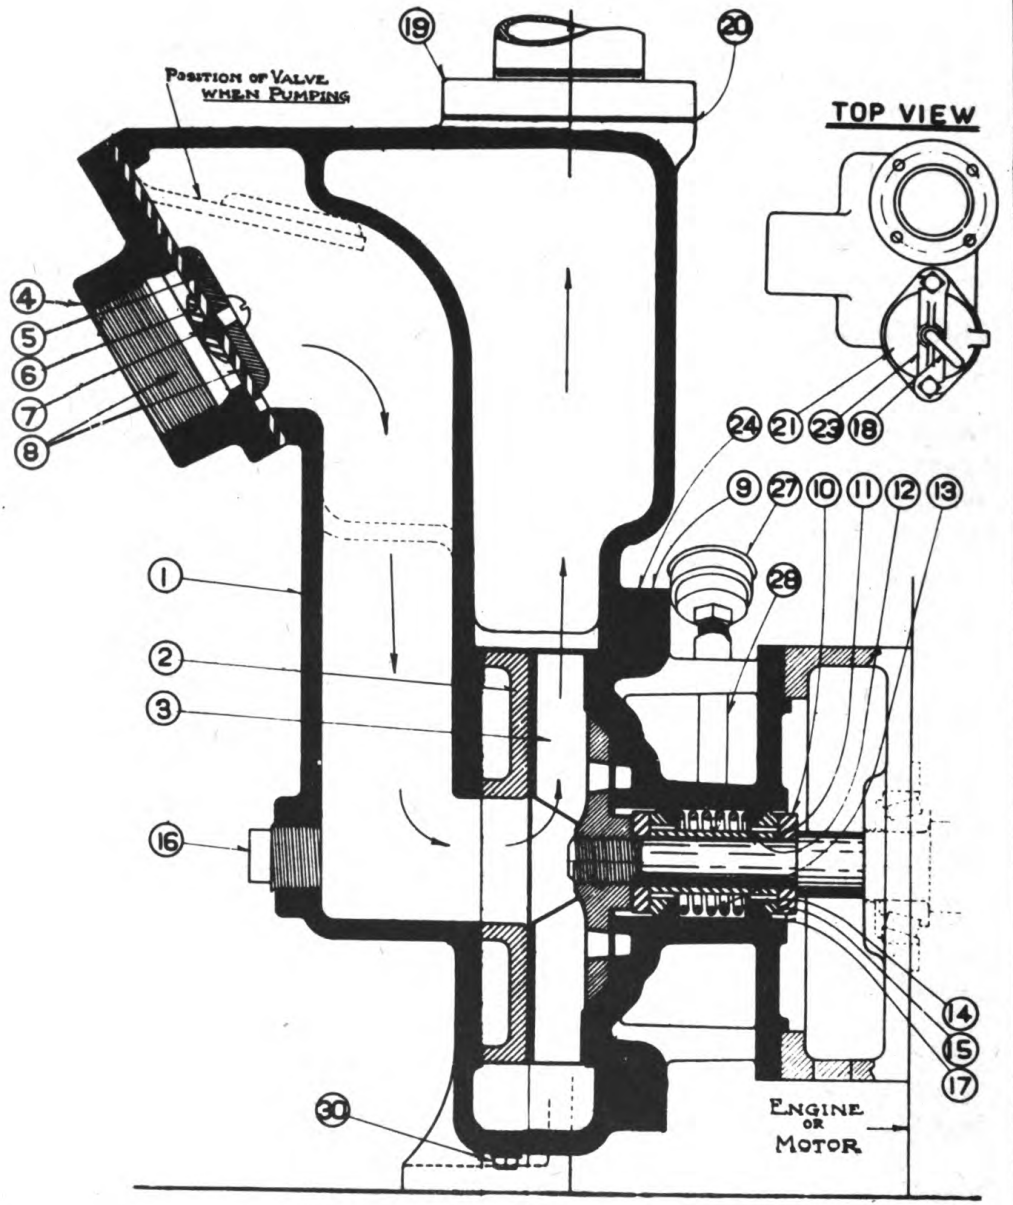

Fig. 44
PROPER LUBRICATION OF THE GREASE SEAL (Fig. 44)—The grease seal is a great improvement over the customary stuffing box with packing, in fact, without it the self-priming centrifugal pump does not operate satisfactorily. The purpose of the seal is:
TO REPLACE GREASE SEAL ASSEMBLY (Fig. 44)—Remove pump body (1) from intermediate part (9) which exposes impeller (3). The impeller shaft is a right hand thread so to unscrew impeller place a hard wood block on the end of an impeller vane and strike the block a sharp blow with a hammer. If the impeller vane is not protected by the wood block and is struck directly with the hammer it may be broken.